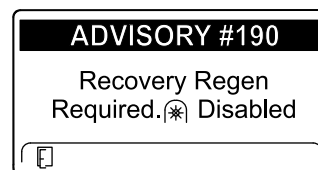

Figure 57
- Recovery regeneration required—power takeoff disabled ADVISORY #190 (Figure 57)